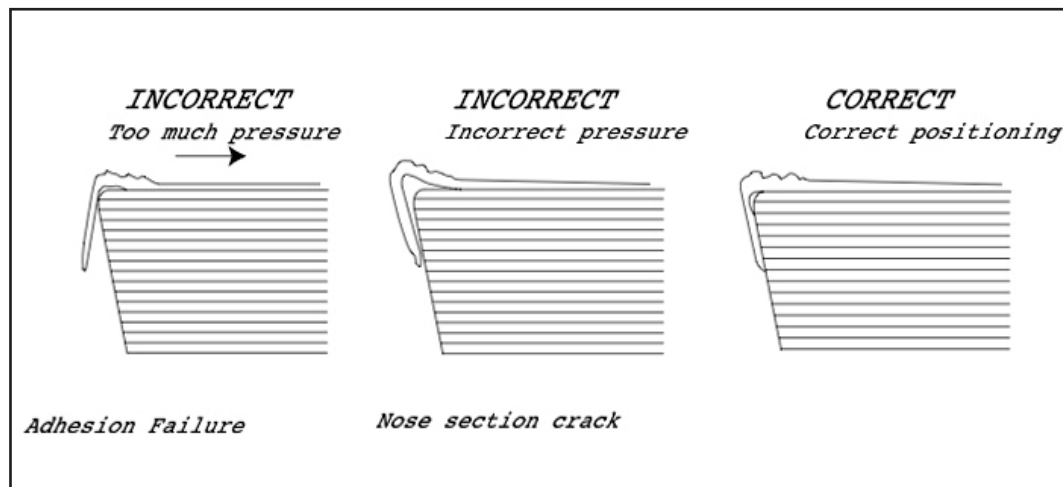

Fig. 4
- Place the nose fold of the Takiron Stair Treads onto the right angle of the step. Carefully press into place so that there is no gap between the substrate and the nose fold. See Fig. 4.